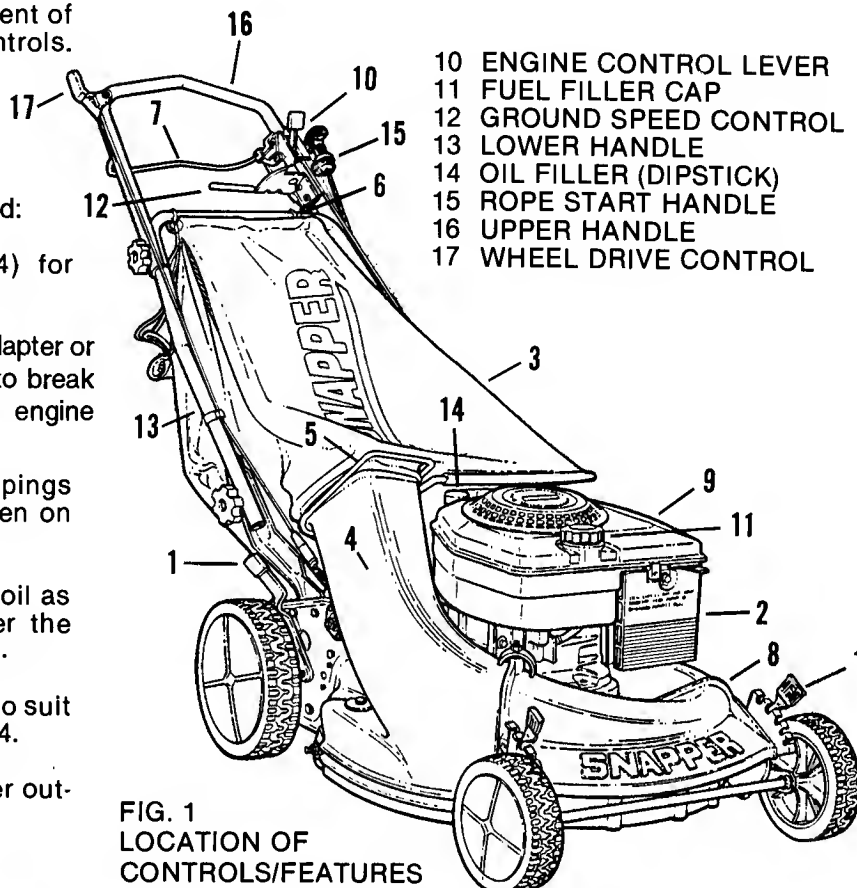

FIG. 1
The engine (and blade) is stopped by releasing the **BLADE CONTROL** (7) or by pulling the **ENGINE CONTROL** lever (10) rearward to the **STOP** position. On self-propelled models, releasing the **WHEEL DRIVE** control (17) stops the forward movement of the mower. Refer to FIG. 1 for locations of controls.
- CHECK** guards, BAG (3), BAG ADAPTOR (4) for proper position and tightness.
- CHECK** oil level in 4-cycle engines and add oil as needed to bring the level up to but not over the dipstick (14) "FULL" mark. Refer to FIG. 1 & 2.
1. Move **ENGINE CONTROL** lever to **CHOKE** position. Refer to FIG. 1.
2. Hold **BLADE CONTROL** (7) firmly against **UPPER HANDLE** (16) - otherwise the engine will not start! Refer to FIG. 1.
3. Pull the **ROPE START HANDLE** (15) repeatedly until the engine starts. Return handle slowly to the guide each time to prevent rope breakage which might occur if the handle is allowed to snap back. Hold the **BLADE CONTROL** (7) against the upper handle to continue mowing.